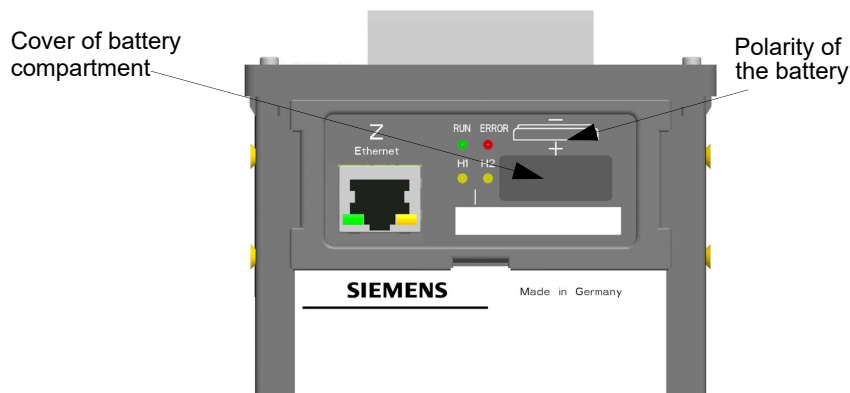

Fig. 5-1 Top side of the Digital Transducer
- ✧ Insert the battery into the battery compartment with the polarity imprinted on the top side of the device (see Figure 5-1).